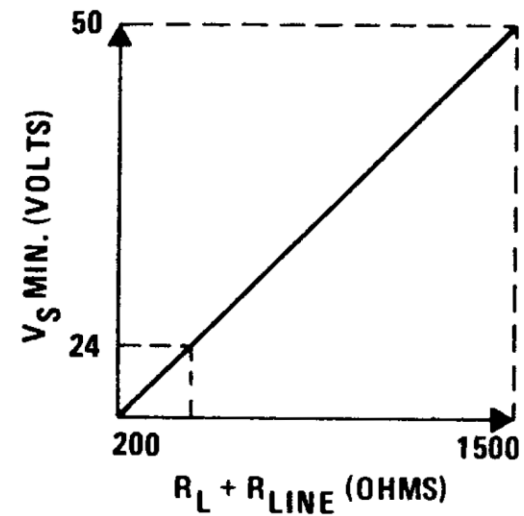

Figure 2
- Minimum Supply Voltage: See Figure 2